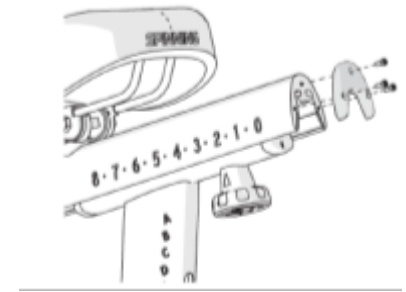

Figure 1
- 1 Using a 2.5mm hex wrench, remove the 3 seat slide end cap screws and end cap from **both** ends of the seat slide assembly (6 screws and 2 caps total), see Figure 1.